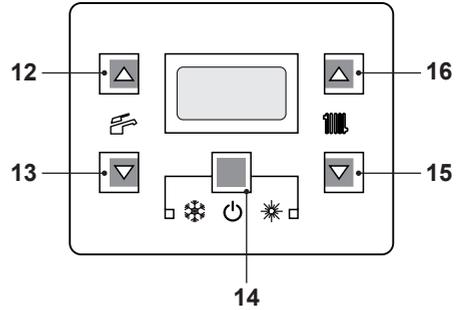
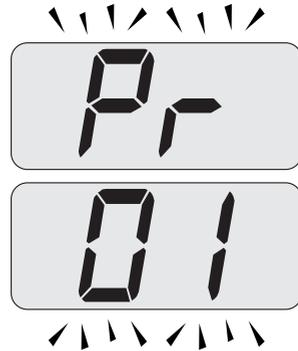
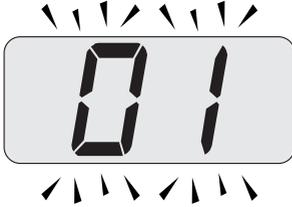

Fig. 7.47
Fig. 7.48
Fig. 7.49
- Enter the "programming mode" by pressing keys 14 - 15 - 16 (Fig. 7.47) for 10 seconds at the same time until the letters **Pr** that alternate with code **01** are displayed on the LCD display, indicating that "parameter 01" (Fig. 7.48) has been activated.
- Press keys 14 and 16 (Fig. 7.47) at the same time until the value of parameter 01 (35=Advance Plus 25C or 36=Advance Plus 30C or 37=Advance Plus 35C) is displayed on the LCD display (Fig. 7.49).
- Press keys 14 and 15 (Fig. 7.47) at the same time to exit without changing the value (return to the parameters list Fig. 7.48).
- Press keys 14 - 15 - 16 (Fig. 7.47) at the same time for 10 seconds to exit the "programming mode".